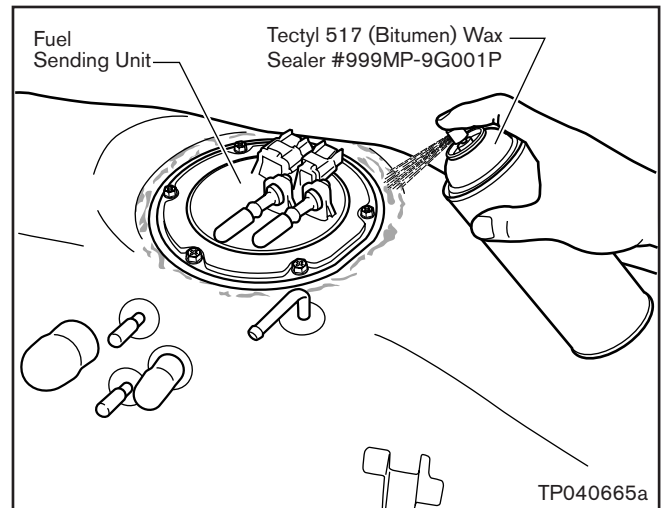

Figure 22
b. Then, apply **ONLY** Tectyl 517 (Bitumen) Wax Sealer (999MP-9G001P) around the outer edge of the Fuel Sending Unit Mounting Flange (see Figure 22).